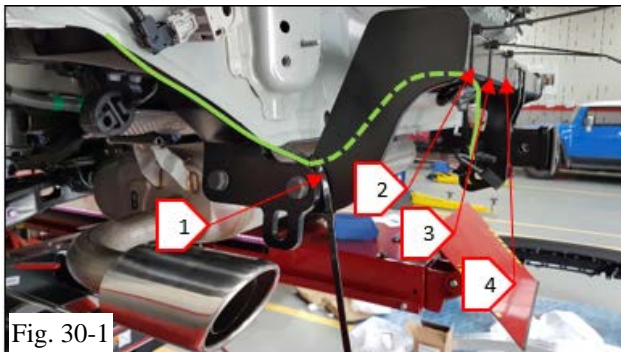
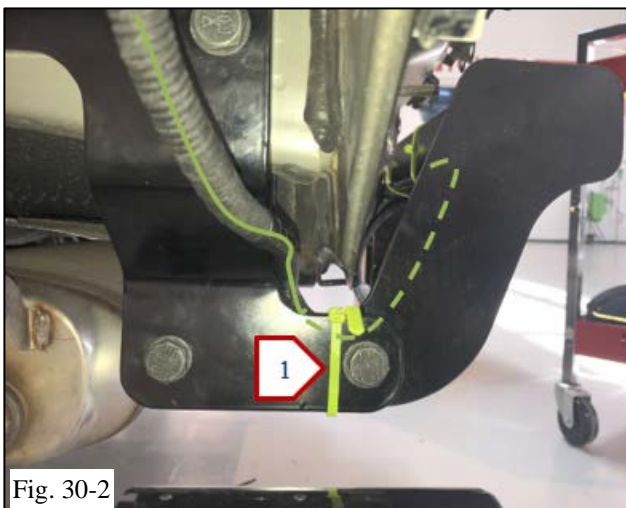

Fig. 30-1
Fig. 30-2
- (a) Follow tow hitch bracket and secure with Wire Tie 14" (Item #5 in the Hardware Bag) as shown (Fig. 30-1 and Fig. 30-2).